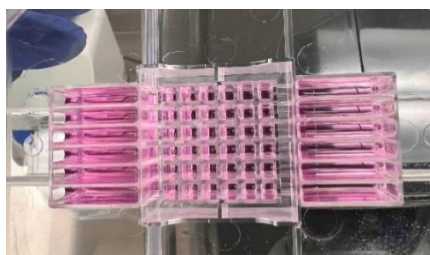

Figure 2. Uniform level of the cell growth medium in the 36PerfusionPlate.
8. Take the perfusion plate out of the incubator and check the level of the cell growth medium in upper and lower reservoirs as well as perfusion wells (**Fig. 2**).